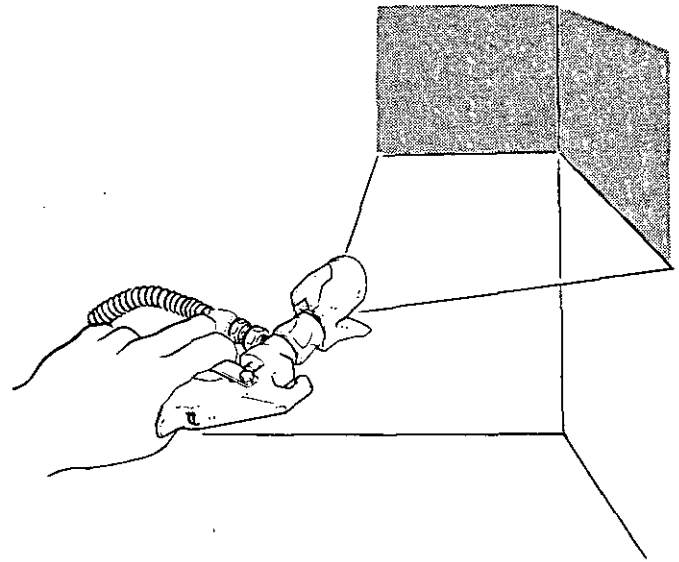

Fig 13
*For interior corners, such as on a bookcase or inside a cabinet, aim the gun toward the center of the corner to spray. By dividing the spray pattern this way, the edges on both sides are sprayed evenly. See Fig 13.*